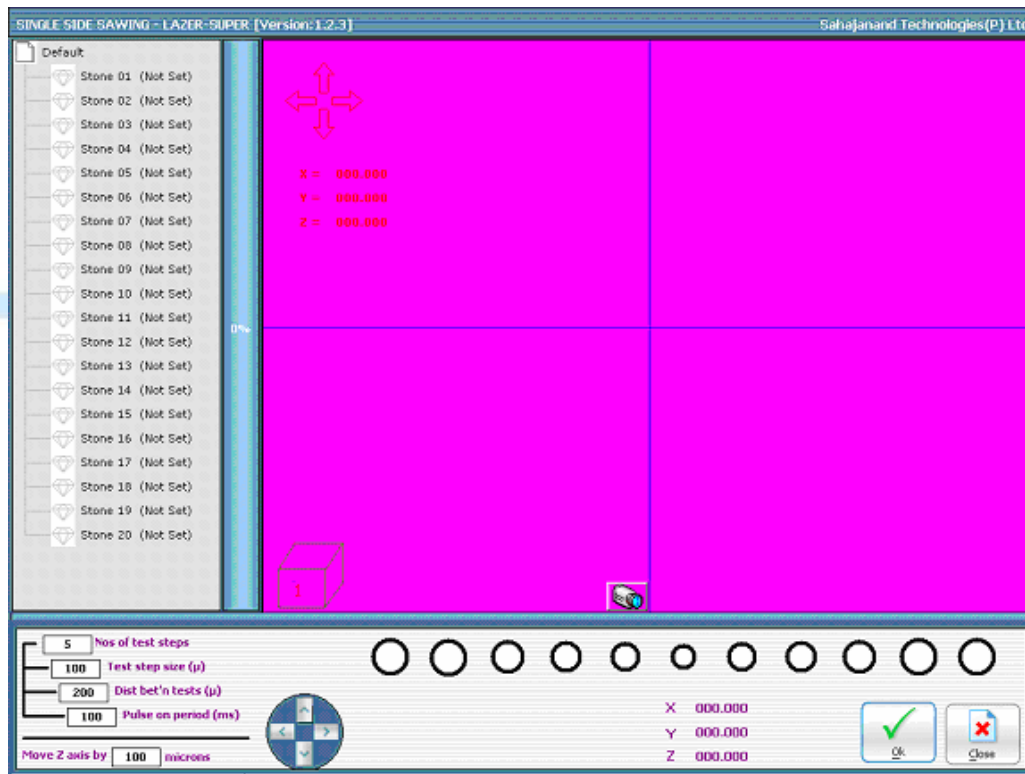

Figure 16: Focal Point Settings Window
- ii) Press **F6 key** or **Focal setting(F6)** Button. It will take you to Focal settings window (As shown in **Figure 16**)